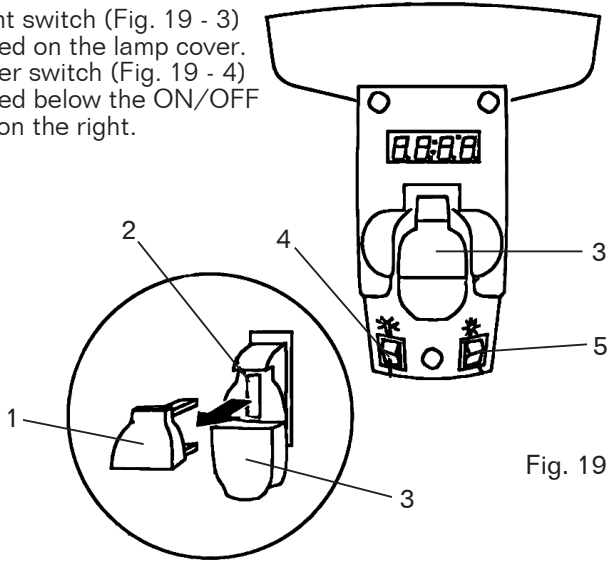

Fig. 19
## DRILL PRESS ON / OFF SWITCH (FIG. 19)
1. To turn the drill press ON, insert the yellow safety key (Fig. 19 - 1) into the switch housing (Fig. 19 - 2). As a safety feature, the switch cannot be turned ON without the safety key.
4. To lock the switch in the OFF position, remove the safety key (Fig. 19 - 1) from the switch. Store the safety key in a safe place away from the reach of children.
## LIGHT & LASER LINE ON/OFF SWITCHES (FIG. 19)
The light switch (Fig. 19 - 3) is located on the lamp cover. The laser switch (Fig. 19 - 4) is located below the ON/OFF switch on the right.